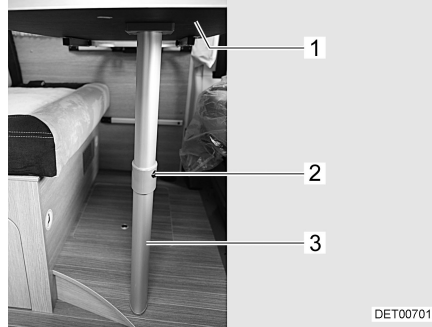

Fig. 29 Bed foundation
- Slightly raise the front of the table top (Fig. 29,1).
- Press the release knob (Fig. 29,2) and fold the lower part of the fold-out leg (Fig. 29,3) by 90°.